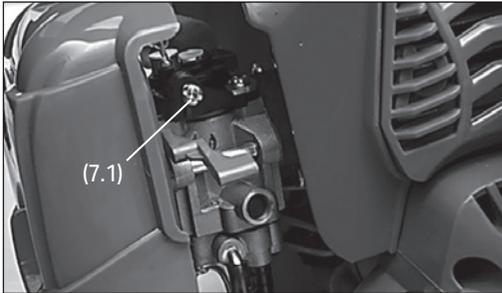

Fig.25
10.4 Engine Idle Speed Adjustment (Fig.25)
3. To install the new spool line – find the middle of the replacement line and hook into the insert point shown in Fig.25.